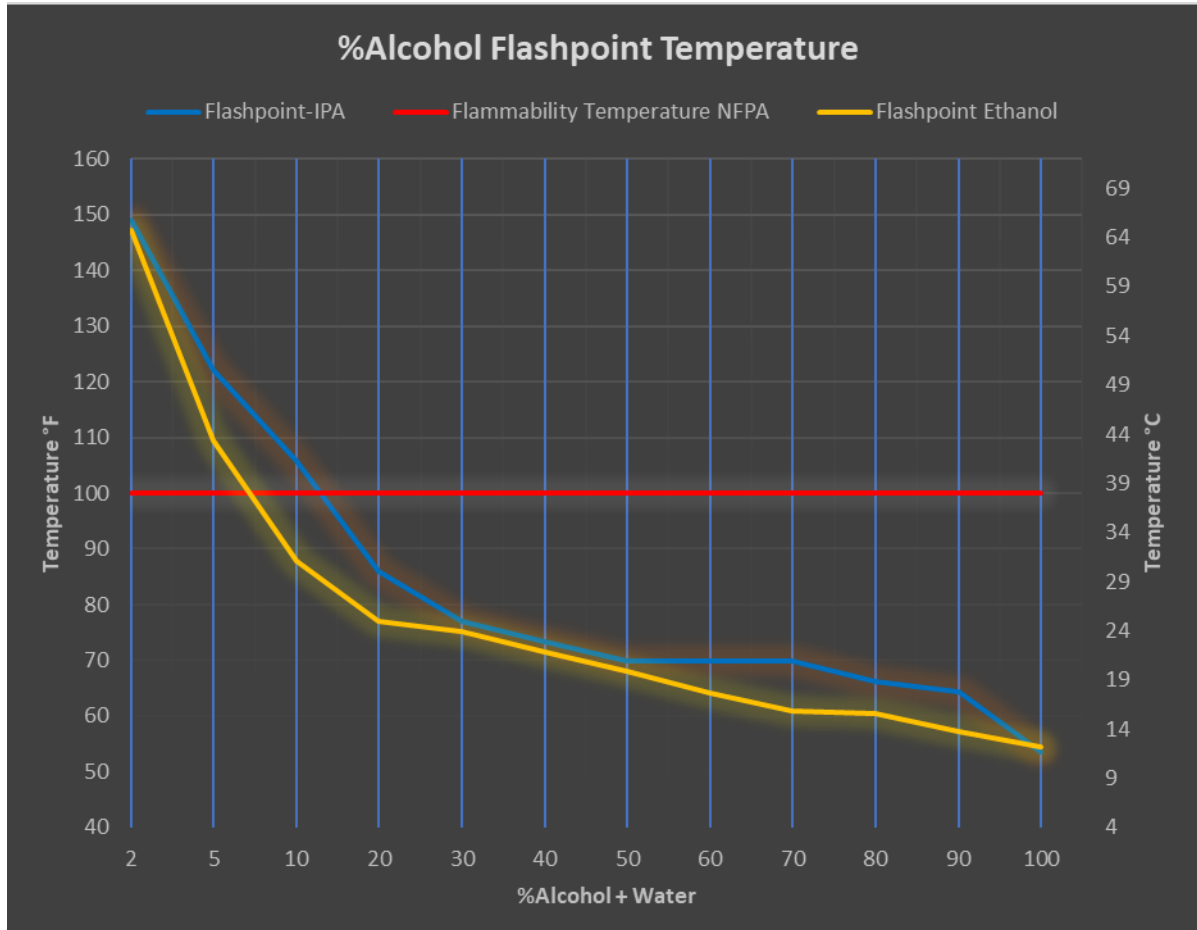

Figure 37 – Alcohol + Water Flashpoint Temperature
- VIII.8.2.a Reviewing **Figure 37** (*Astbury, G.R. & Bugand-Bugandet, J. & Grollet, E. & Stell, K.M. (2005), Flash points of aqueous solutions of flammable solvents. Institution of Chemical Engineers Symposium Series. 505-522 (7).*), at 2% IPA + Water solutions are classified as combustible with a flashpoint of 65°C/149°F. At greater than **~7.5% Ethanol** or 10% IPA +Water solutions are classified as flammable with a flashpoint less than 100°F/38°C.